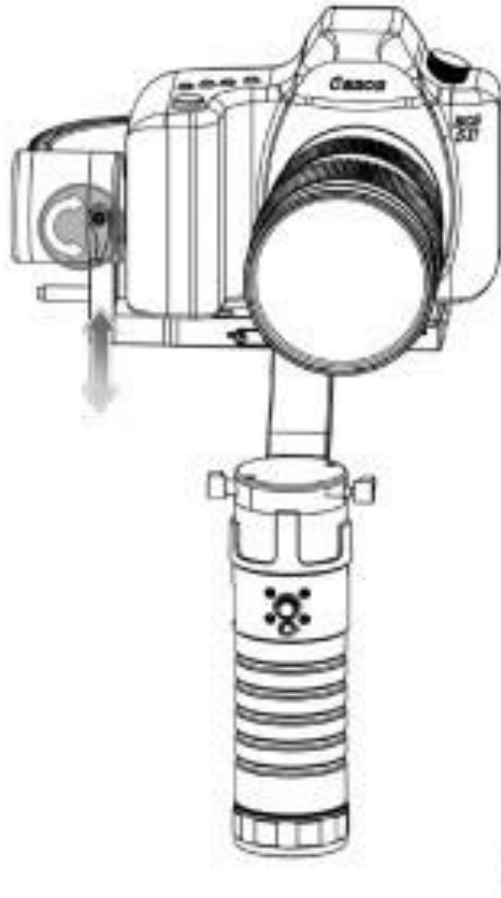

Fig. 7. Pitch balance adjustment
- Release the pitch thumb screw (Fig. 7).